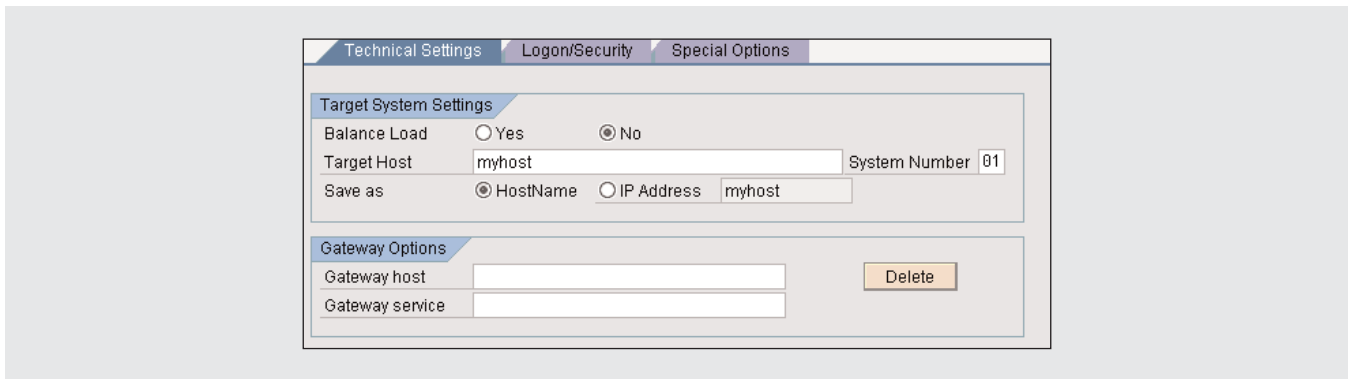

Figure 3 Technical settings of a direct connection
If you want a *direct* connection, select No, or in other words, you choose *not* to create a load-balanced connection (see **Figure 3**). With a direct connection, you specify the target host (myhost) and its system number (01).¹³ Then you save the connection as the host name or as an IP address.